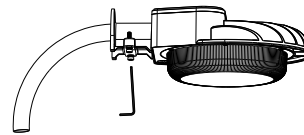

Figure 3
3. Tighten the screws on the installation plate by M6 hex wrench (Figure 3);